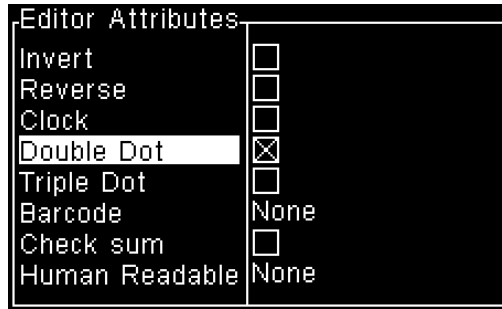

Figure 5-7: Double Dot Option
- 3 Press F3 or select *Modify Attributes* from the Editor menu to open the Editor Attributes window (Figure 5-7).